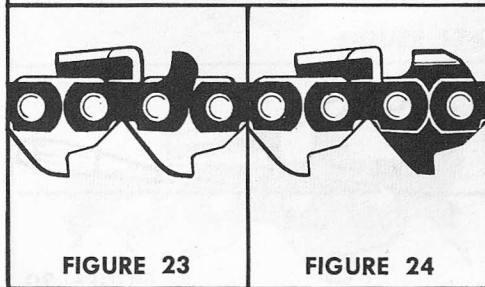

FIGURE 23
3. Figures 23 and 24 illustrate two types of depth gauges used in standard chains. Either method of jointing may be carried out on chains of these types. We recommend that after each jointing that the front of the depth gauge be rounded off to maintain original contour.